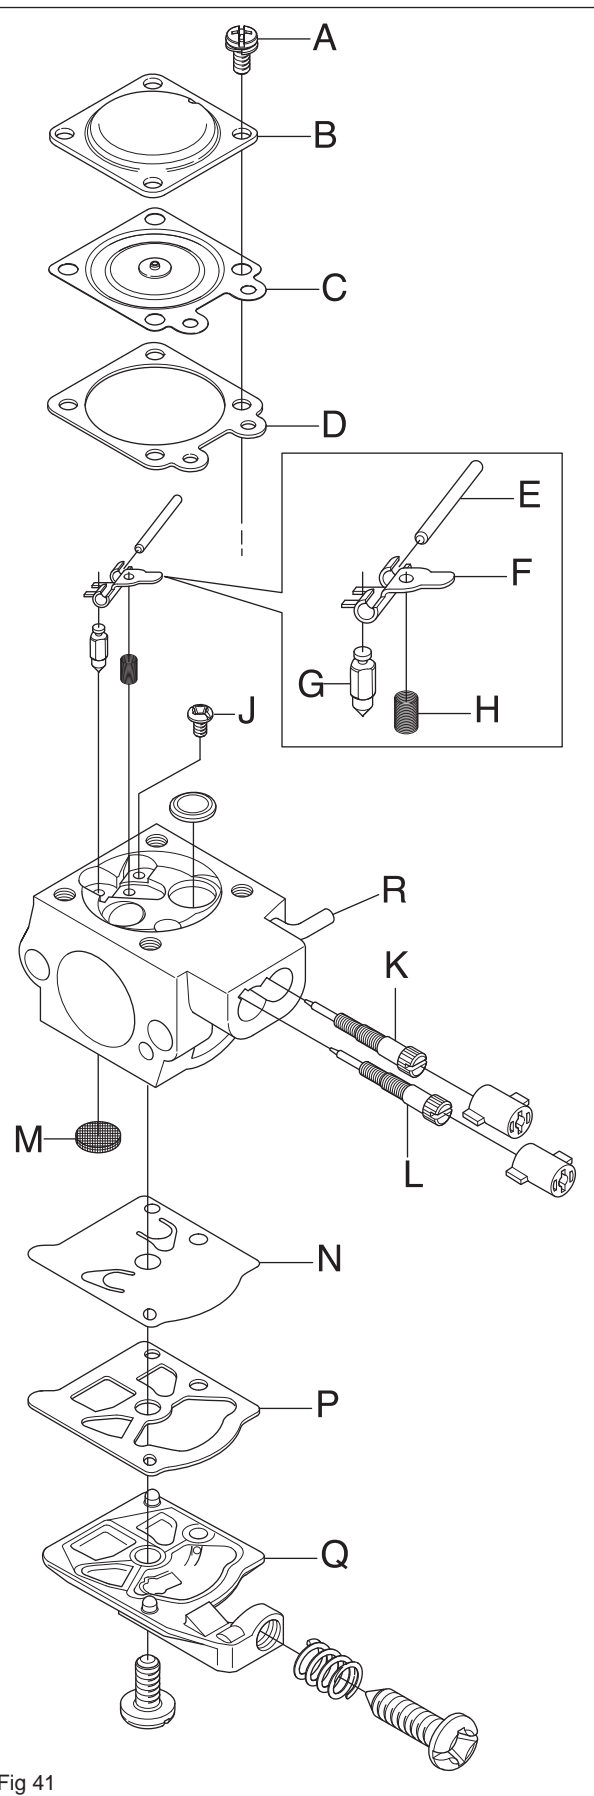

Fig 41
Dismantle high-speed screw L and low-speed screw K (see figure 41).
3. That the needle valve G and its lever arm F are not worn (see figure 41).
4. That the fuel screen M is intact and clean (see figure 41).
5. That the tips of the high L and low K speed needles are not damaged (see figure 41).
6. That the inlet tube R is intact (see figure 41).
3. Assemble the fuel screen M using the handle of a small screwdriver (see figure 41).